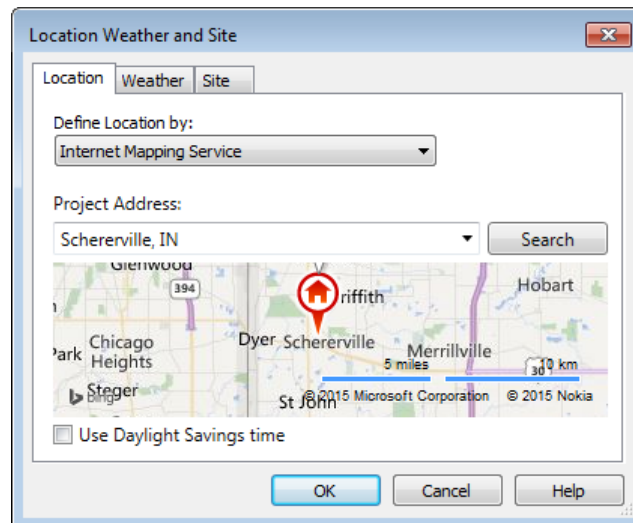

Figure 2-32 The **Location Weather and Site** dialog box
3. In the **Location** tab of the **Location Weather and Site** dialog box, enter **Schererville, IN** in the **Project Address** edit box and then choose the **Search** button; the **Bing Map** browser is displayed under the **Project Address** edit box showing the desired location in the map, as shown in Figure 2-32.